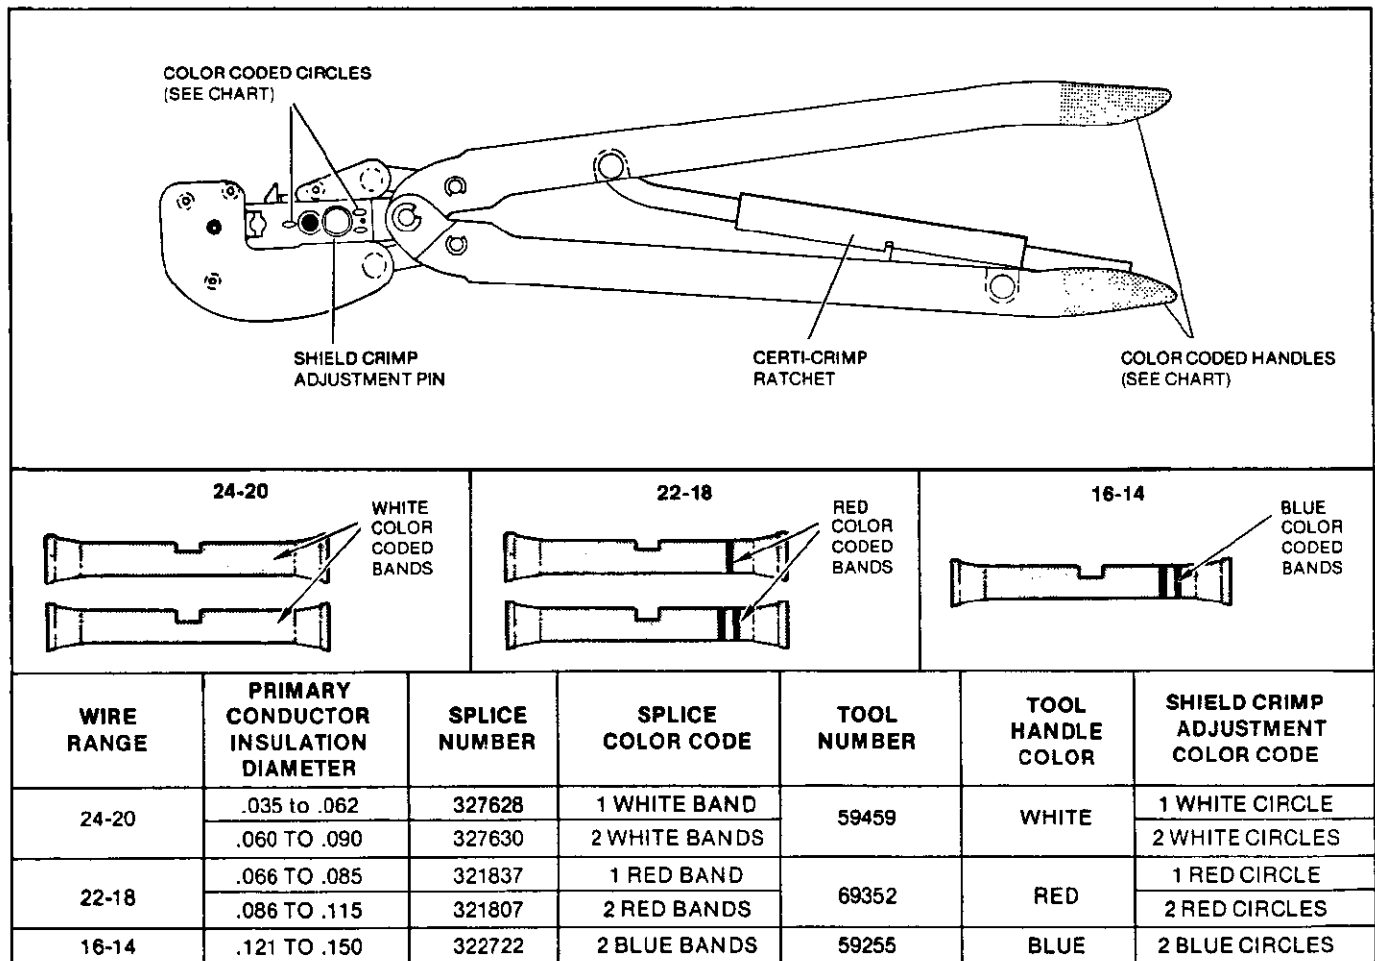

Figure 1
These instructions may be used for tools not listed in Figure 1 but accompanied by this IS. For unlisted tools, use the wire strip dimensions given in Figure 1 for an identical size tool.
Select the proper splice for the size wire to be used and obtain the correct shield crimp adjustment from Figure 1. For example:
- In Figure 1, under column title "wire range", find range of wire being used, 22-18.
- Read across the chart from left to right and find: number 321807 is used; this splice has 2 red bands; use tool No. 69352; tool handles are color coded red; and finally, in the last column, shield crimping adjustment color code is 2 red circles. See Figure 1.
- Using tool No. 69352, insert the shield crimp adjustment pin (Figure 1) next to the 2 red circles stamped on the shield crimping die.
- Open crimping dies by closing handles until CERTI-CRIMP® ratchet, see Figure 1, releases. Note that once ratchet is engaged, handles cannot be opened until they are first fully closed.